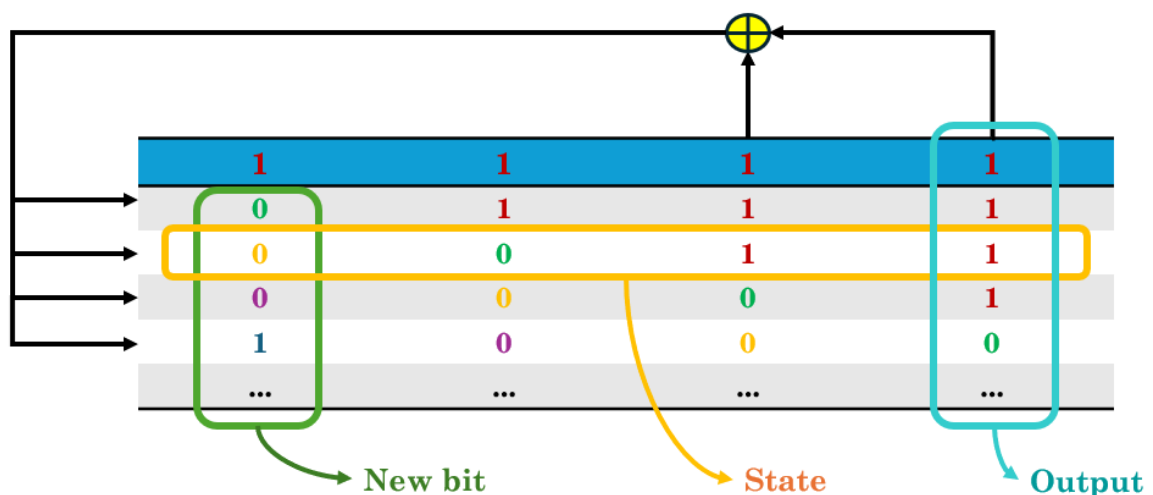

Figure 8 Illustrate the PRBS-4 algorithm in more detail.
- **Figure 8** illustrates an example of a 4-bit LFSR and its shifting data pattern.